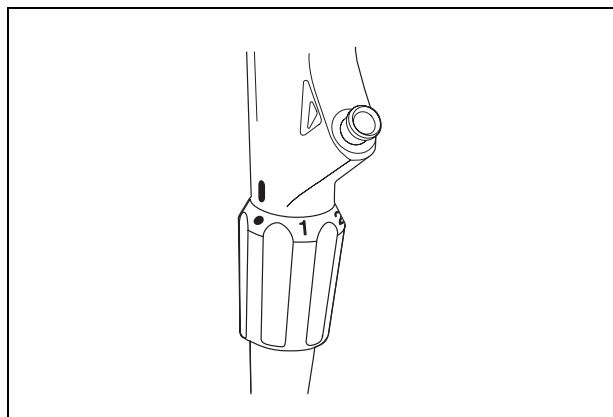

Figure 3.4
1. Confirm that the marks (“●”, “1”, “2”, “3”) on the flexibility adjustment ring and the “■” mark at the bottom of the grip section are clearly visible (see Figure 3.4).